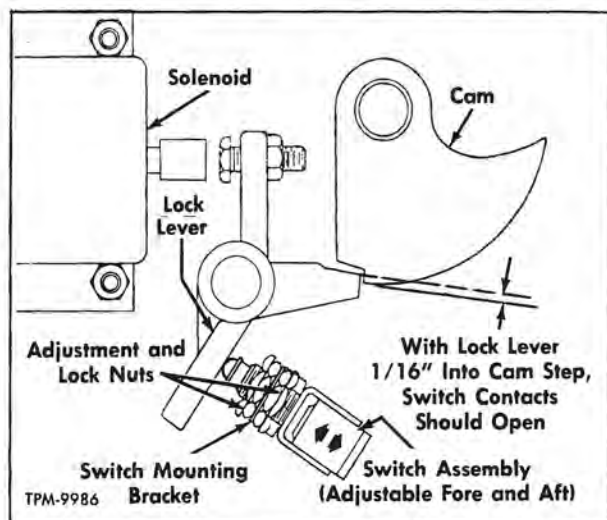

Figure 11—Rear Door Switch Adjustment Points
15. Adjust rear door (micro) switch (15) to break light and interlock circuits when lock cam lever (27) has moved approximately 1/16-inch into the step of lock cam (28) as shown in figure 11. By means of switch mounting nuts, switch can be located fore and aft in mounting bracket as necessary. Secure switch position by tightening lock nuts against mounting nuts.